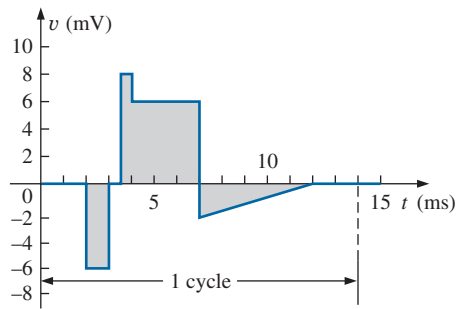

FIG. 13.100
43. Find the average value of the periodic waveform of Fig. 13.100 over one full cycle.